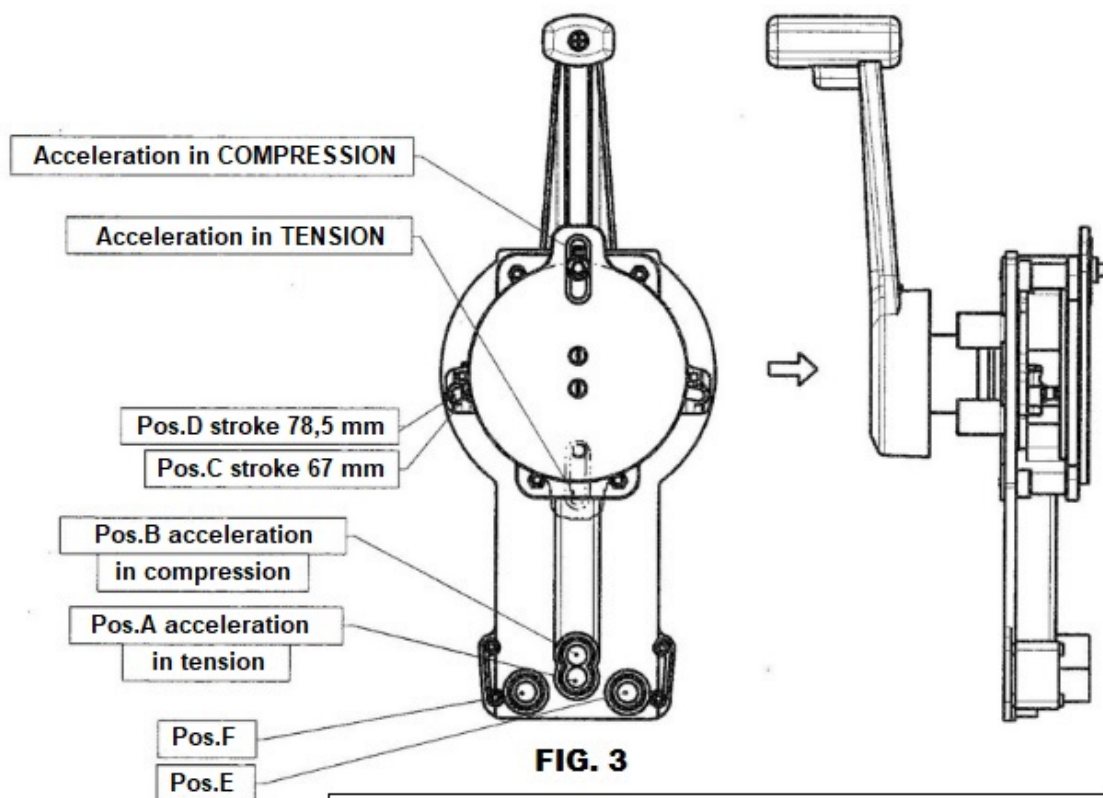
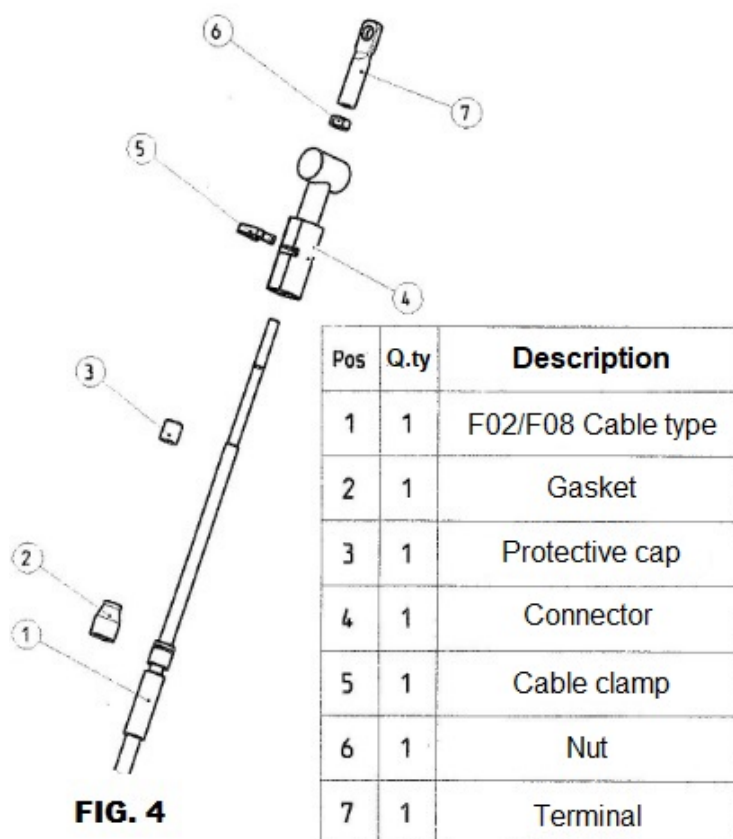

**FIG. 1**
**FIG. 2**
2. Mount the fixing flange **(1)** (see **Fig.1** and **Fig.2**), using N°4 M6x25 screws **(2)**, N°4 washers **(4)** and N°4 M6 self-locking nuts **(3)**. Lend pay attention to the position of the safety key which must be as shown in **Fig.1**.